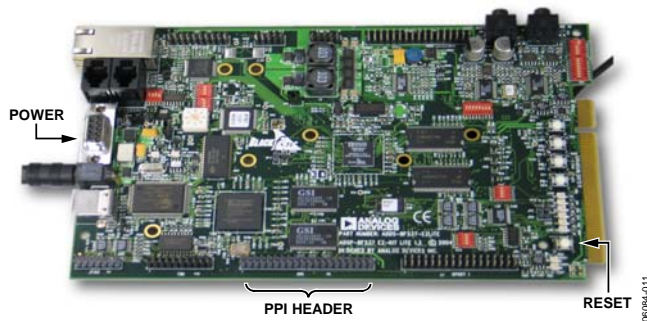

Figure 11. Powering Up the Blackfin EZ-KIT Lite Board
2. Power up the *Blackfin* board by inserting the power cable into the receiver as shown in Figure 11.
5. Reset the *Blackfin* board (use the **RESET** push button as indicated in Figure 11).
8. Connect the female connector (J4, marked "*Blackfin* PPI"), which is on the under side of the EVAL-AD7764/AD7765EBZ evaluation board to the PPI header of the *Blackfin* board. The PPI port is highlighted in Figure 11.